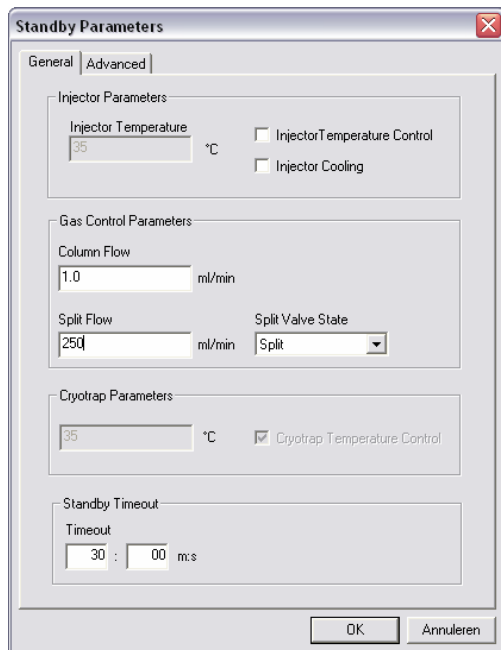

Figure 1.
- Set the OPTIC 3 in Standby and set the parameter as in figure 1 and press OK.